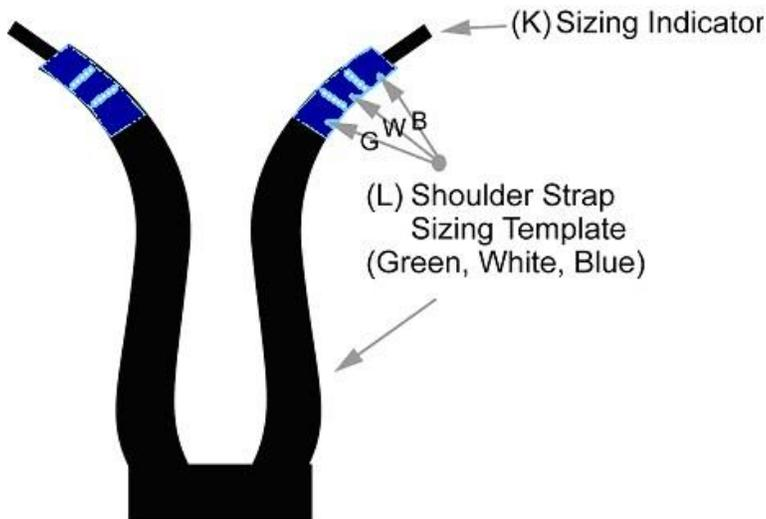

Figure 3 - Shoulder Strap Template
2. Familiarize yourself with each rucksack component (Torso, Shoulder Strap and Hip Belt), their size options and the size related colour code key, Figure 3.